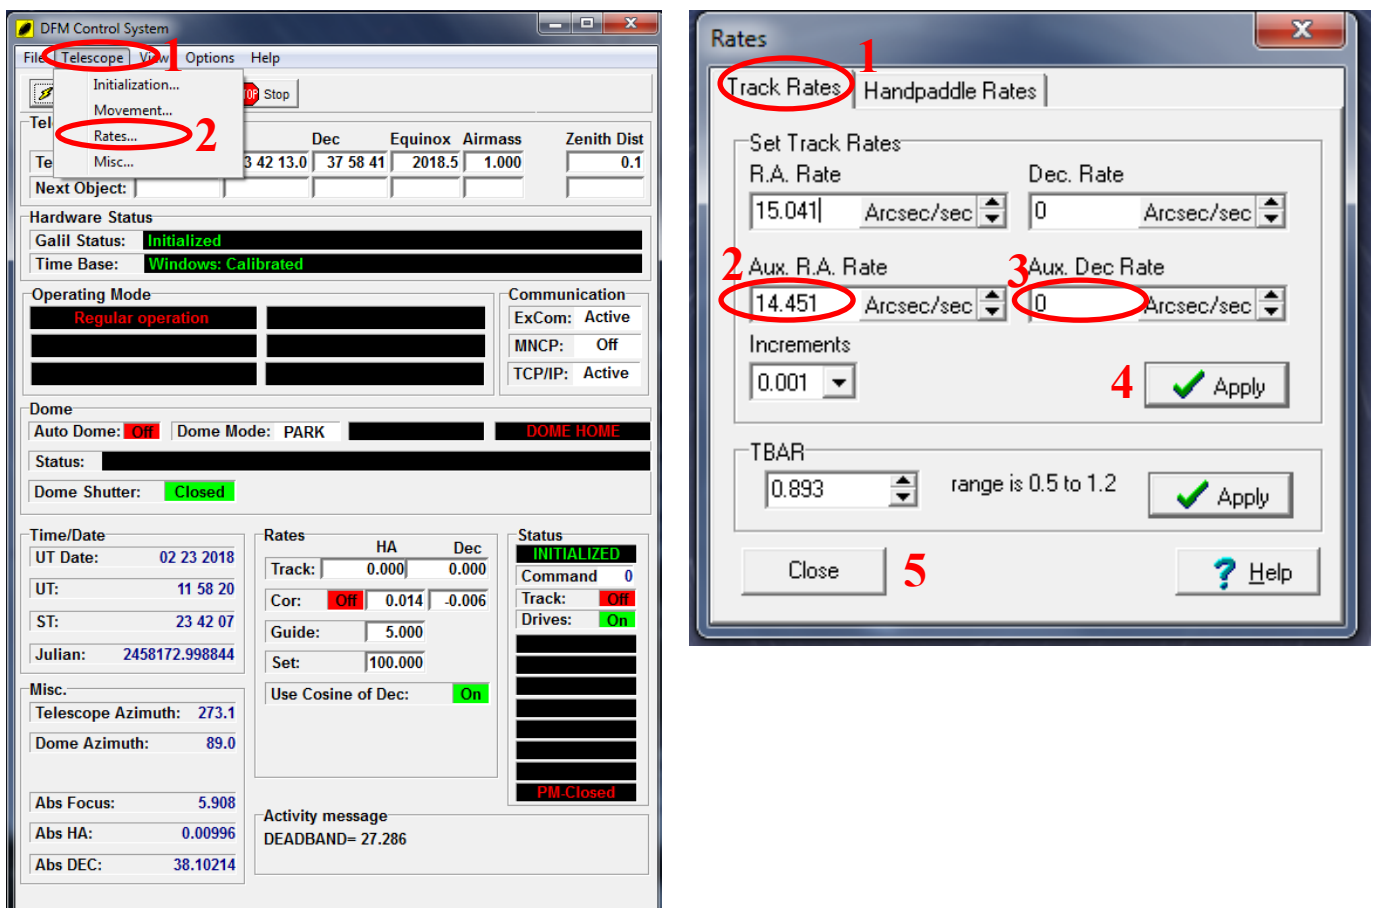

Fig. 9.2. Left: The “Telescope” menu and the selection of “Rates” menu. Right: Setting auxiliary tracking rates to the telescope in the “Track Rates” submenu.
- i. Click on the “Telescope” menu and select “Rates...” (Fig. 9.2 left No 1-2). The “Rates” window opens (Fig. 9.2 right).
- ii. Click on the “Track Rates” tab (Fig. 9.2 right No 1) and type in the “Aux. R.A. Rate” and in the “Aux. Dec Rate” boxes (Fig. 9.2 right No 2-3) the values you want.
- iii. Press “Apply” and “Close” (Fig. 9.2 right No 4-5)